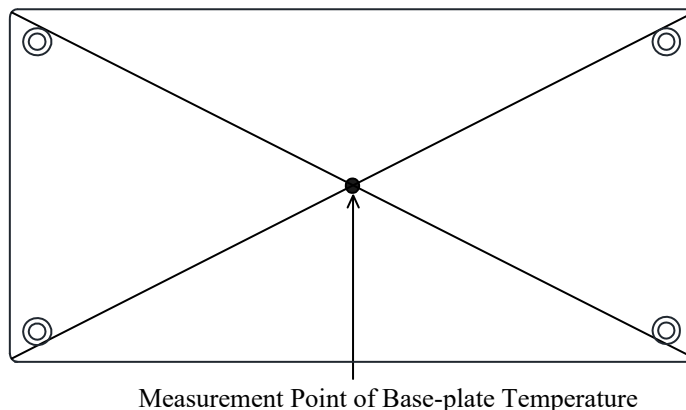

Fig.7-23 Measurement Point of Base-plate Temperature
- Note) 1. Maximum base-plate temperature is 100 °C. For worst case operating condition, verify base-plate temperature at measurement point indicated in Fig. 7-23. Moreover, ambient air temperature shall be confirmed at a point 10 mm or less from the power supply side. Use below 85°C ambient temperature.